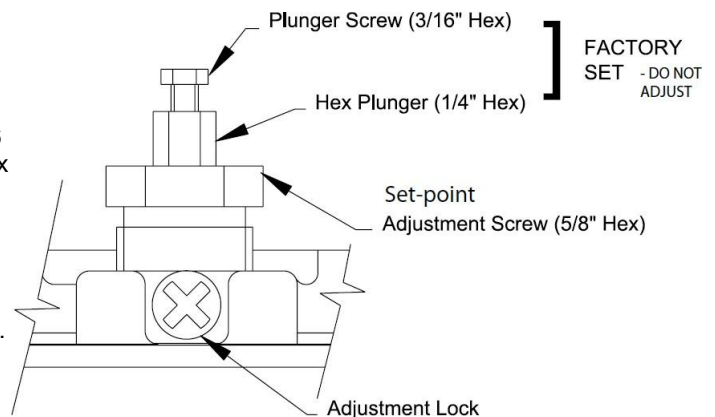

FIGURE 8 - Pressure Switch Adjustment
6.10.3 Pressure Switch Calibration (PS1) (SEE FIGURE 8)
6.10.4 Pressure Switch Re-Gapping (SEE FIGURE 8)